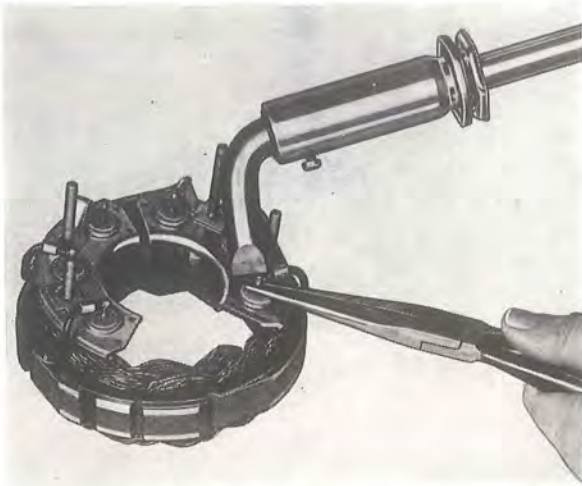

Fig. 3-15. Soldering on the diodes
3. Solder on the diodes, see Fig. 3-15.